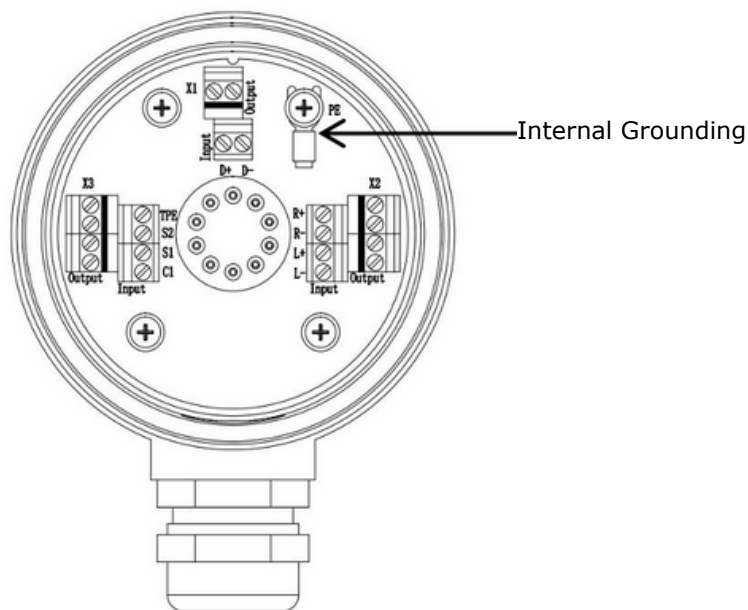

Figure 4
Internal grounding and shield routing inside the junction box are highlighted in Figure 4.
- Inside the sensor junction box, the terminal board has a dedicated internal grounding point, where the shield of the sensor cable is connected; see Figure 4.